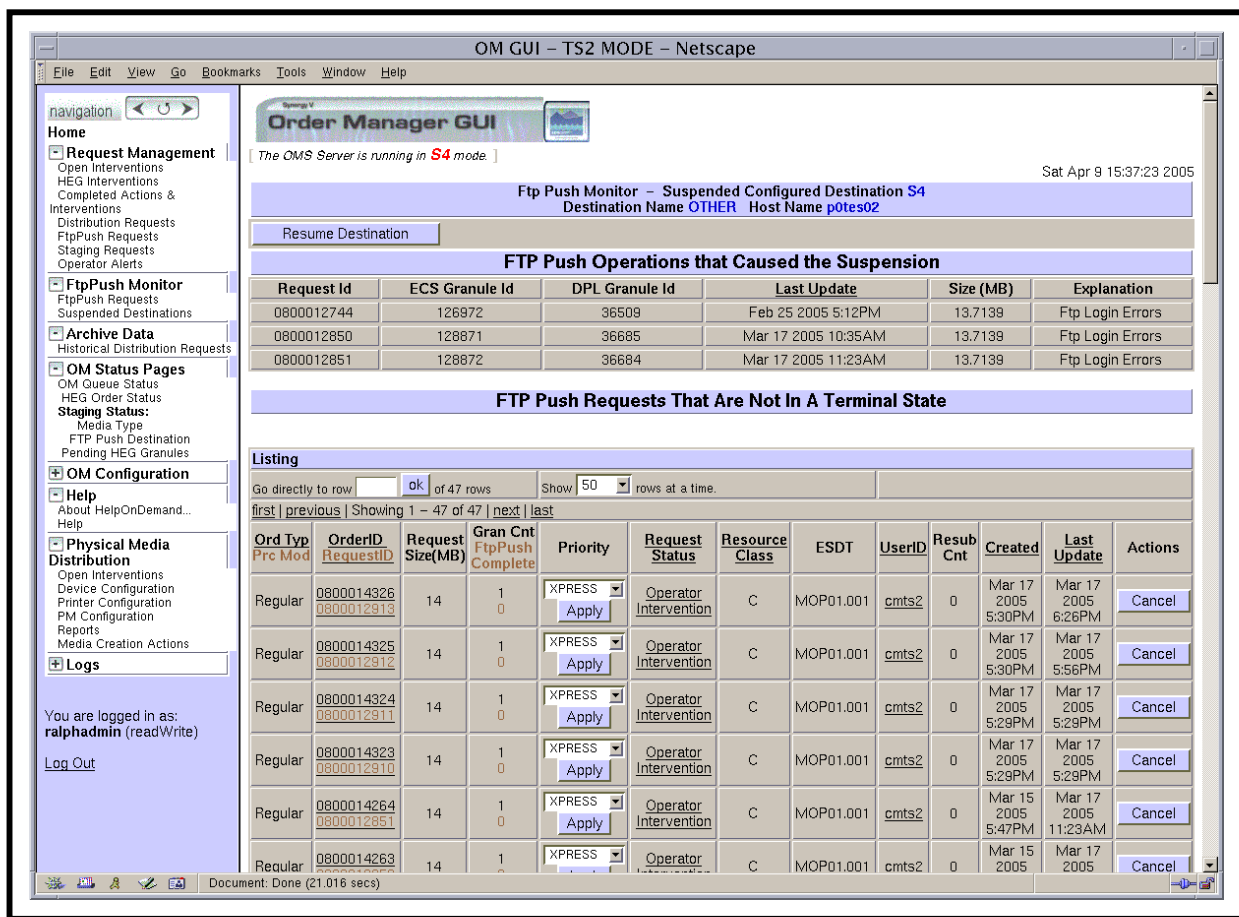

Figure 50. Suspended Host Detail Page
- A page describing the alert (e.g., Figure 50) is displayed.